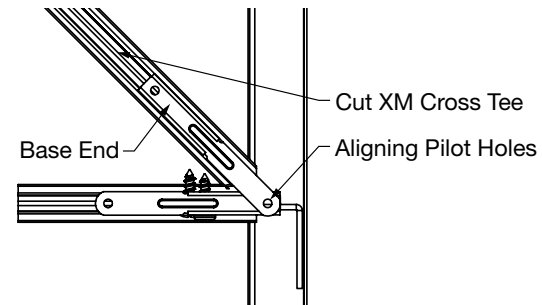

Fig 81
- Place a PAC over the bulb of the cut XM Cross Tees so that the pilot hole on the flat side aligns over the top pilot hole on the base side of the previously installed PAC (**Fig 81**)